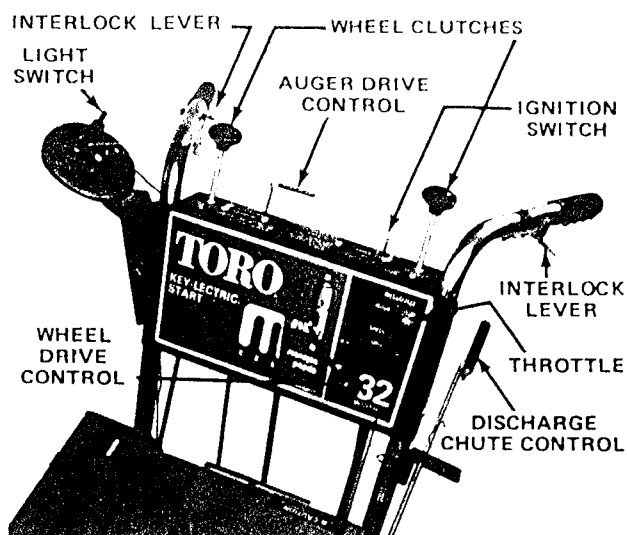

Figure 22
Auger Drive Control (Fig. 22) — Control has two positions: ENGAGE and DISENGAGE. To engage auger and impeller, pull control up slowly until it stops in an over center position. To disengage auger and impeller, pull control down.
Interlock Levers (Fig. 22) — One interlock lever must be compressed against handle grip when auger drive or wheel drive control is engaged. The engine will shut off if both levers are released when auger drive or wheel drive control is engaged. This is a safety feature that reminds the user to disengage auger drive control before leaving operator's position behind the handles.
Wheel Clutches (Fig. 22) — Pull both wheel clutches out to get free-wheeling characteristic. By contrast, push both clutches in to get direct drive to both wheels. When one wheel clutch is pushed in and the other is out, direct drive will be to the wheel that has clutch pushed in; and the other wheel will be free-wheeling.
Wheel Drive Control (Fig. 22) — The control has five positions: N—neutral, R—reverse, 1, 2, and 3. To change speeds, move wheel drive control to position desired. Control must be held in R—reverse — when backing, and when it is released, gear shift automatically returns to neutral. Use positions 1, 2, and 3 depending on snow conditions. Keep interlock lever compressed when shifting.
Throttle (Fig. 22) — The variable speed throttle has two positions: FAST and SLOW. Moving the throttle forward increases engine speed. Use only enough engine speed to throw snow to the place desired.
Discharge Chute Control (Fig. 22) — Rotate discharge chute control clockwise to move discharge chute to the left and counterclockwise to move chute to the right.
Ignition Switch (Fig. 22) — Ignition switch is used to start and stop the engine. Rotate key fully clockwise to engage starter motor with ring gear in engine. Release key immediately when engine starts. **DO NOT ENGAGE STARTER MOTOR WHILE ENGINE IS RUNNING** because damage will likely result. Rotate key counterclockwise to stop engine.
1. Move auger drive control down to DISENGAGE (Fig. 22).
2. Move wheel drive control to N — neutral — and throttle to FAST (Fig. 22).
5. Insert key into ignition switch (Fig. 22); then rotate key to START position. Release key as soon as engine starts and regulate the choke to keep engine running. As engine warms up, move choke fully up. Let engine warm up for a few minutes before using snowthrower.
1. Move wheel drive control to N — neutral — and auger drive control to DISENGAGE (Fig. 22).
2. Move throttle to SLOW and rotate ignition key counterclockwise to OFF (Fig. 22).